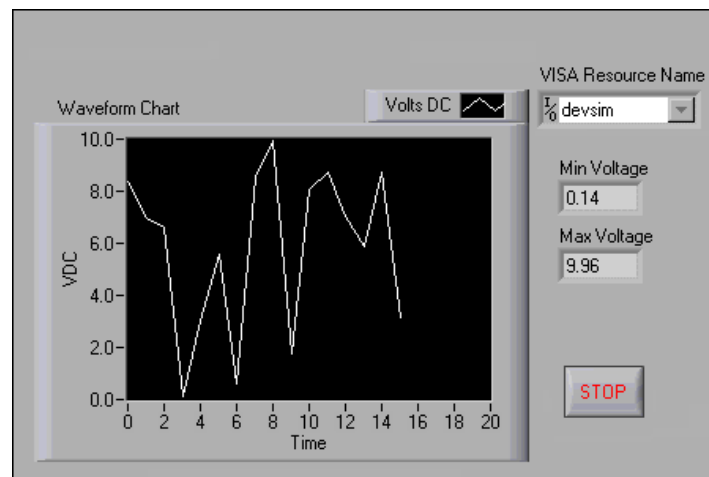

Figure 11.10
2. Build the front panel shown in Figure 11.10.